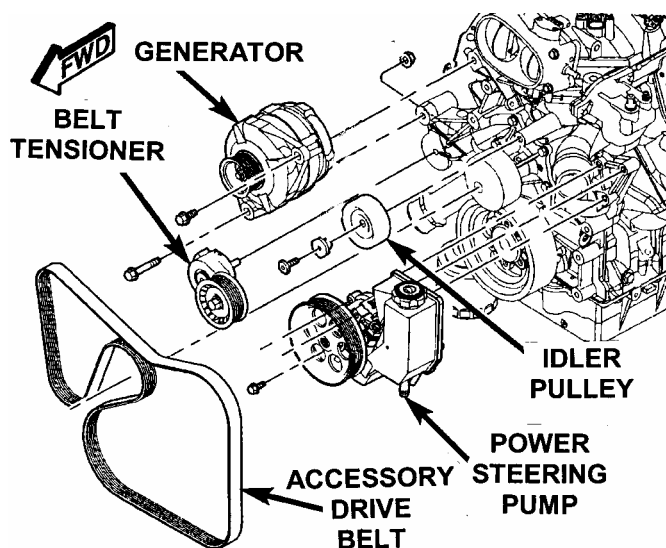

Figure 11
9. Remove the accessory drive belt (Figure 11).
10. Remove the power steering pump (Figure 11).
11. Remove the generator (Figure 11).
72. Install the generator (Figure 11).
73. Install power steering pump (Figure 11). Tighten the fasteners to 200 in-lbs (22 N·m).
74. Install accessory drive belt (Figure 11) by positioning the belt over all pulleys except water pump pulley, then rotate tensioner counterclockwise and slip belt over water pump pulley and gently release tensioner.